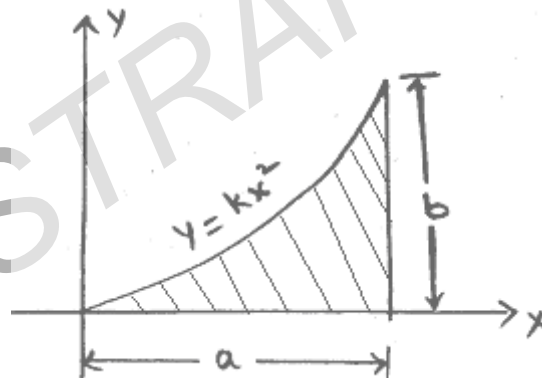

Figure 8a
8. (a) Determine the moment of inertia of the shaded area about the x - axis. {As shown in the Figure 8a}. [8+8]